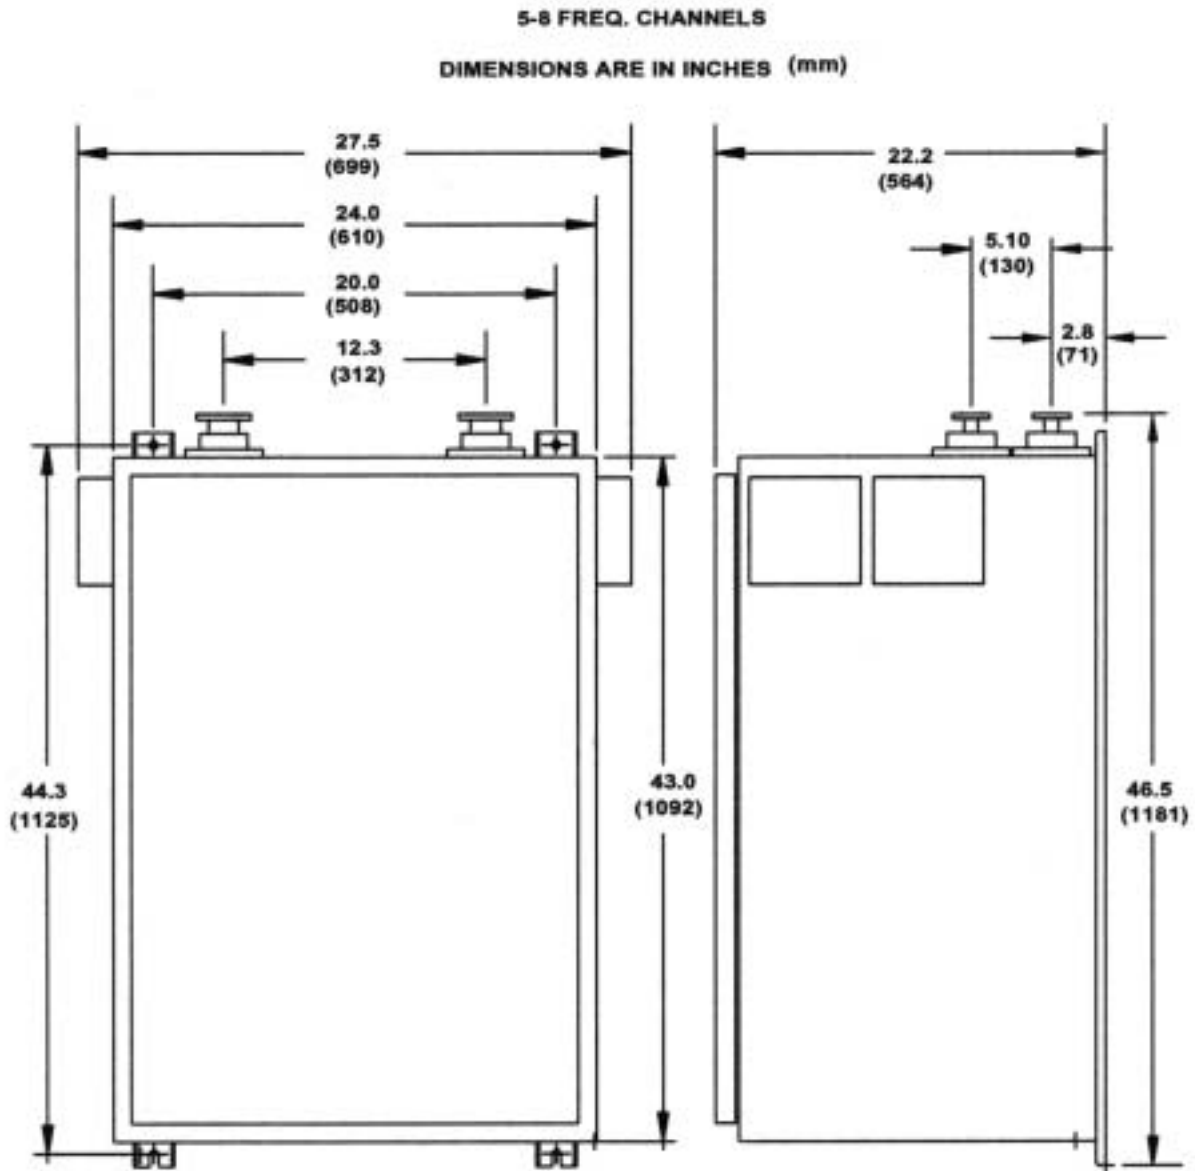

Figure 15. Cabinet Mounting Dimensions, 5-8 Freq. Channels
- The length of all power leads should be limited and the wire size adequate to minimize the voltage drop. The repeater assembly, battery boxes, solar panels, and antennas should all be mounted before any wiring is done. Mounting hole dimensions for the repeater enclosures are shown in Figure 15 and Figure 16.